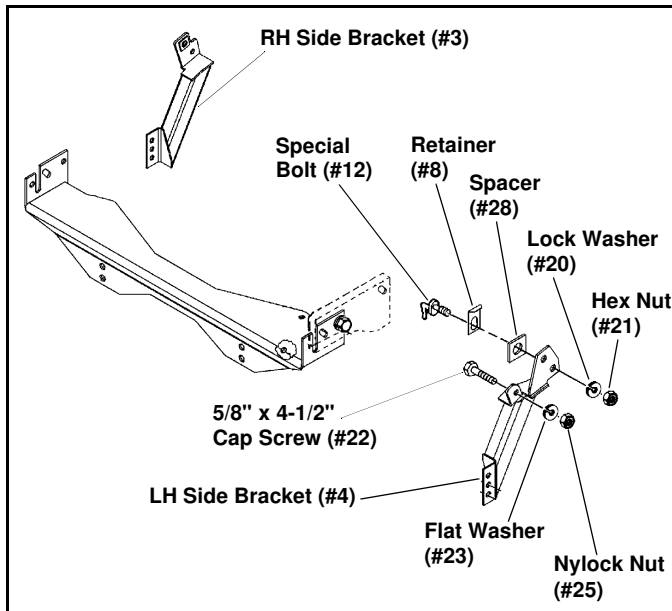

Figure 3
5. Position the RH Side Bracket (#3) to check mounting alignment. (See Step 6 if holes need to be drilled). Fasten the RH Side Bracket (#3), to vehicle frame with (1) Special Bolt (#12). Insert hook end of Special Bolt in 1" hole in outside of vehicle frame rail. Use (1) Retainer (#8) to hold Special Bolt in place when Side Bracket is installed, and to prevent Special Bolt from falling into frame during Side Bracket installation. Use (1) 3/4" Lock Washer (#20), and (1) Plain Nut (#21) to secure Special Bolt to Side Bracket. Secure the front of the Side Bracket to vehicle frame rail with (1) 5/8" x 4-1/2" Cap Screw (#22), (1) Flat Washer (#23) and Nylock Nut (#25). (See Figure 3.)
7. Secure the LH Side Bracket (#4) to the vehicle frame with (1) Special Bolt (#12). Insert hook end of the Special Bolt in the 1" hole in the outside of the vehicle frame rail. Use (1) Retainer (#8) to hold the Special Bolt in place and prevent the Special Bolt from falling into the frame during installation. Use (1) 3/4" Lock Washer (#20) and (1) Hex Nut (#21) to secure Special Bolt to the Side Bracket. Secure the front hole with (1) 5/8" x 4-1/2" Cap Screw (#22), (1) Flat Washer (#23) and Nylock Nut (#25). (See Figure 3.)